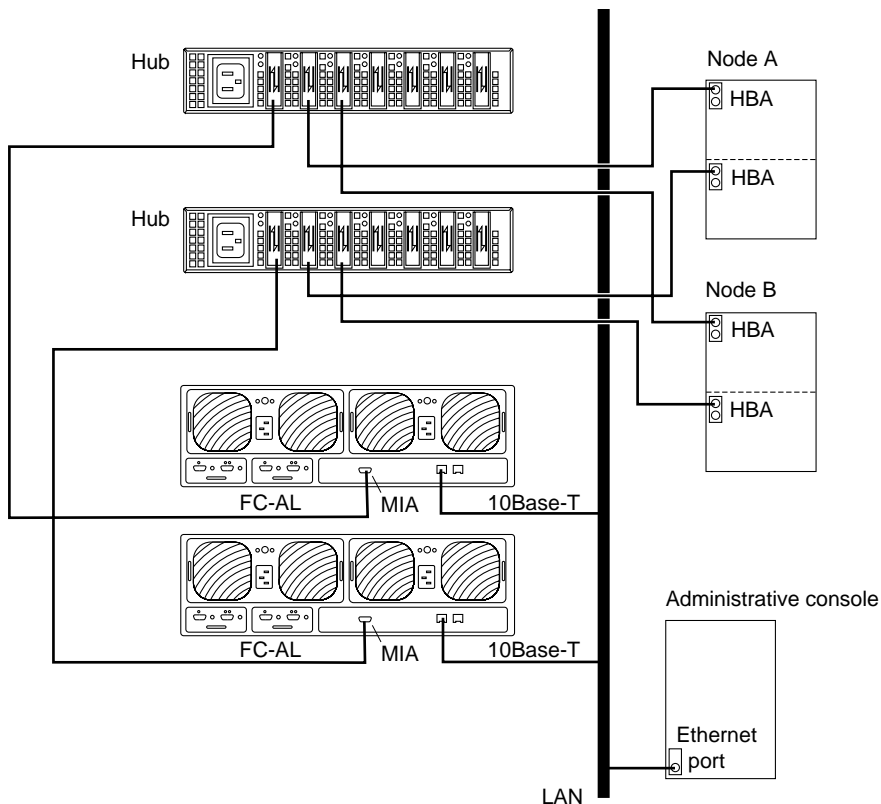

FIGURE B-4 Adding a Sun StorEdge T3 disk tray in a single-tray configuration
36. If necessary, install gigabit interface converters (GBIC) as shown in FIGURE B-4.
37. If necessary, connect a fiber optic cable between the Sun StorEdge FC-100 hub and Node B as shown in FIGURE B-4.